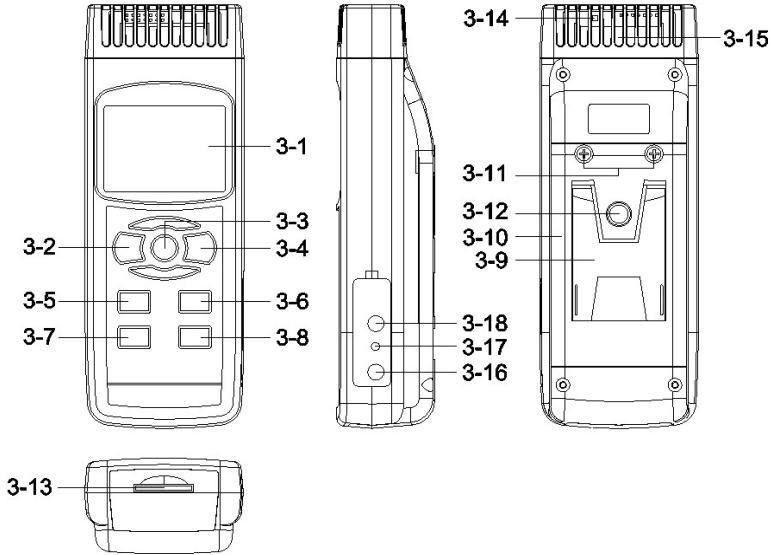

Fig. 1
- 1) Power on the meter by pushing the " Power Button "(3-2, Fig. 1)
- 2) Press the " Screen Button " (3-6, Fig. 1) once in sequence to select the measuring function Screen :
- 3) In Humidity/Temp. Measure scree ,Press the " Function Button " (3-5, Fig. 1) once in sequence to select the DEW/°C or WET/°C measuring function Screen :
During the measurement, press the " Hold Button " (3-3, Fig. 1) once will hold the measured value & the LCD will display a " HOLD " symbol. Press the " Hold Button " once again will release the data hold function.
- 1) The data record function records the maximum and minimum readings. Press the " REC Button " (3-4, Fig.1) once to start the Data Record function and there will be a " REC " symbol on the display.
- a) Press the " REC Button " (3-4, Fig. 1) once, the " REC MAX " symbol along with the maximum value will appear on the display.
- b) Press the " REC Button " (3-4, Fig. 1) again, the " REC MIN " symbol along with the minimum value will appear on the display.
Depending on the brightness of the environment, can use the "Backlight Button " (3-2, Fig. 1) select LCD Backlight from OFF and 4rd-order LCD Backlight brightness Sequentially cycle.
Prepare a " SD memory card " (1 GB to 16 GB, optional), insert the SD card into the " SD card socket " (3-13, Fig. 1). The front panel of the SD card should face against the down case.
Press the " LOG Button (3-8, Fig. 1) > 2 seconds continuously, the LCD will show the text of " LOGGER " indicator and flashing per second, at the same time the measuring data along the time information will be saved into the memory circuit.
During execute the Datalogger function , if press the " Logger Button " (3-8, Fig. 1) once will pause the Datalogger function (stop to save the measuring data into the memory circuit temporally). In the same time the text of " LOGGER " will be no flashing.
If press the " Logger Button " (3-8, Fig. 1) once again will execute the Datalogger again, the bottom text of " DATALOGGER " will flashing .
During execute the Datalogger function, press the " LOG Button (3-8, Fig. 1) > 1.5 seconds continuously again will finish the Datalogger function, the " LOGGER " text will be disappeared and finish the Datalogger function.
Press the " LOG Button (3-8, Fig. 1) > 2 second, the LCD will show the indicator " LOGGER " and " Position no. " symbol then press the " LOG Button " (3-8, Fig. 1) once , the " LOGGER " symbol will flashing once and Beeper will sound once at the same time the measuring data along the time information will be saved into the memory circuit .
During execute the Manual Datalogger, press the " ▲ Button " (3-5, Fig, 1) the lower no. (position no.) will flashing. It can use the " ▲ Button " (3-5, Fig. 1) or " ▼ Button " (3-6, Fig. 1) to set the measuring Location no. (1 to 99, for example room 1 to room 99) to identify the measurement location , the lower Display will show P x (x = 1 to 99).
During execute the Datalogger function, press the " LOG Button (3-8, Fig. 1) > 1.5 seconds continuously again will finish the Datalogger function, the Position no. " PXX " will be disappeared and finish the Datalogger function.
- 1) If press " Time Button " (3-7, Fig. 1) once , the lower LCD display will present the time information of Year/Month/Date/Hour/Minute/Second in the lower Display.
During the normal measurement screen (not execute the Datalogger), If press " Sampling Button " (3-8, Fig. 1) once , the lower LCD display will present the Sampling time information in second unit.
- 1) After execute the Data Logger function, take away the SD card out from the " SD card socket " (3-13, Fig. 1).